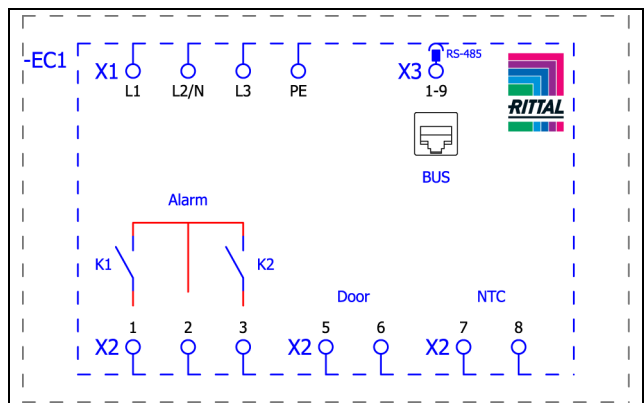
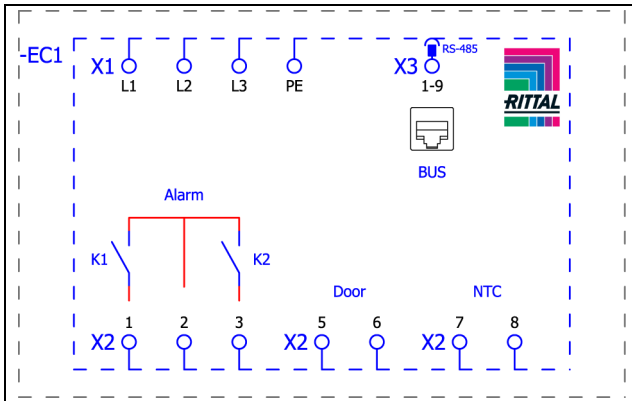

Fig. 16: Circuit diagram SK 3186930, SK 3187930 and SK 3185830
Fig. 17: Circuit diagram SK 3188940 and SK 3189940
- Remove the mains connector from the dispatch bag and connect to the mains as shown on the connection diagram (fig. 16 or fig. 17).